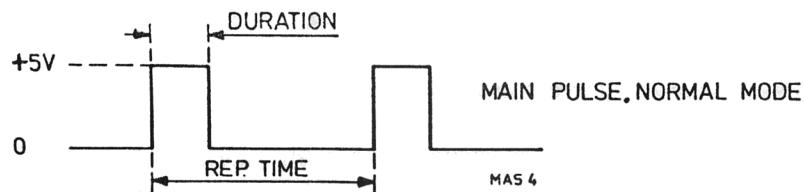

Fig. VI-1 Main pulse, normal mode PM 5705
- Connect an oscilloscope to the PULSE OUT connector via a 50Ω termination and observe a pulse similar to fig. VI-1.